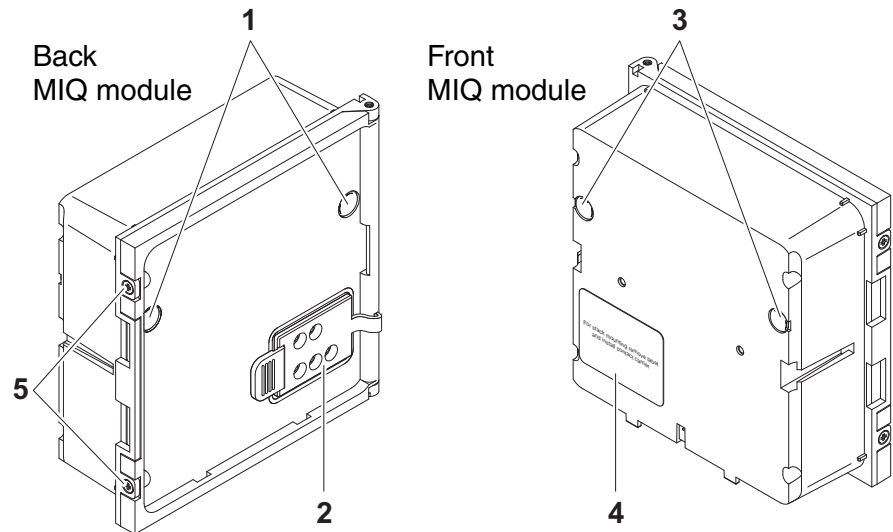

Fig. 3-9 Preparing the MIQ modules for stack mounting (variant 2)
1	Remove the covers from the drilled mounting holes (pos. 1 and 3 in Fig. 3-9).